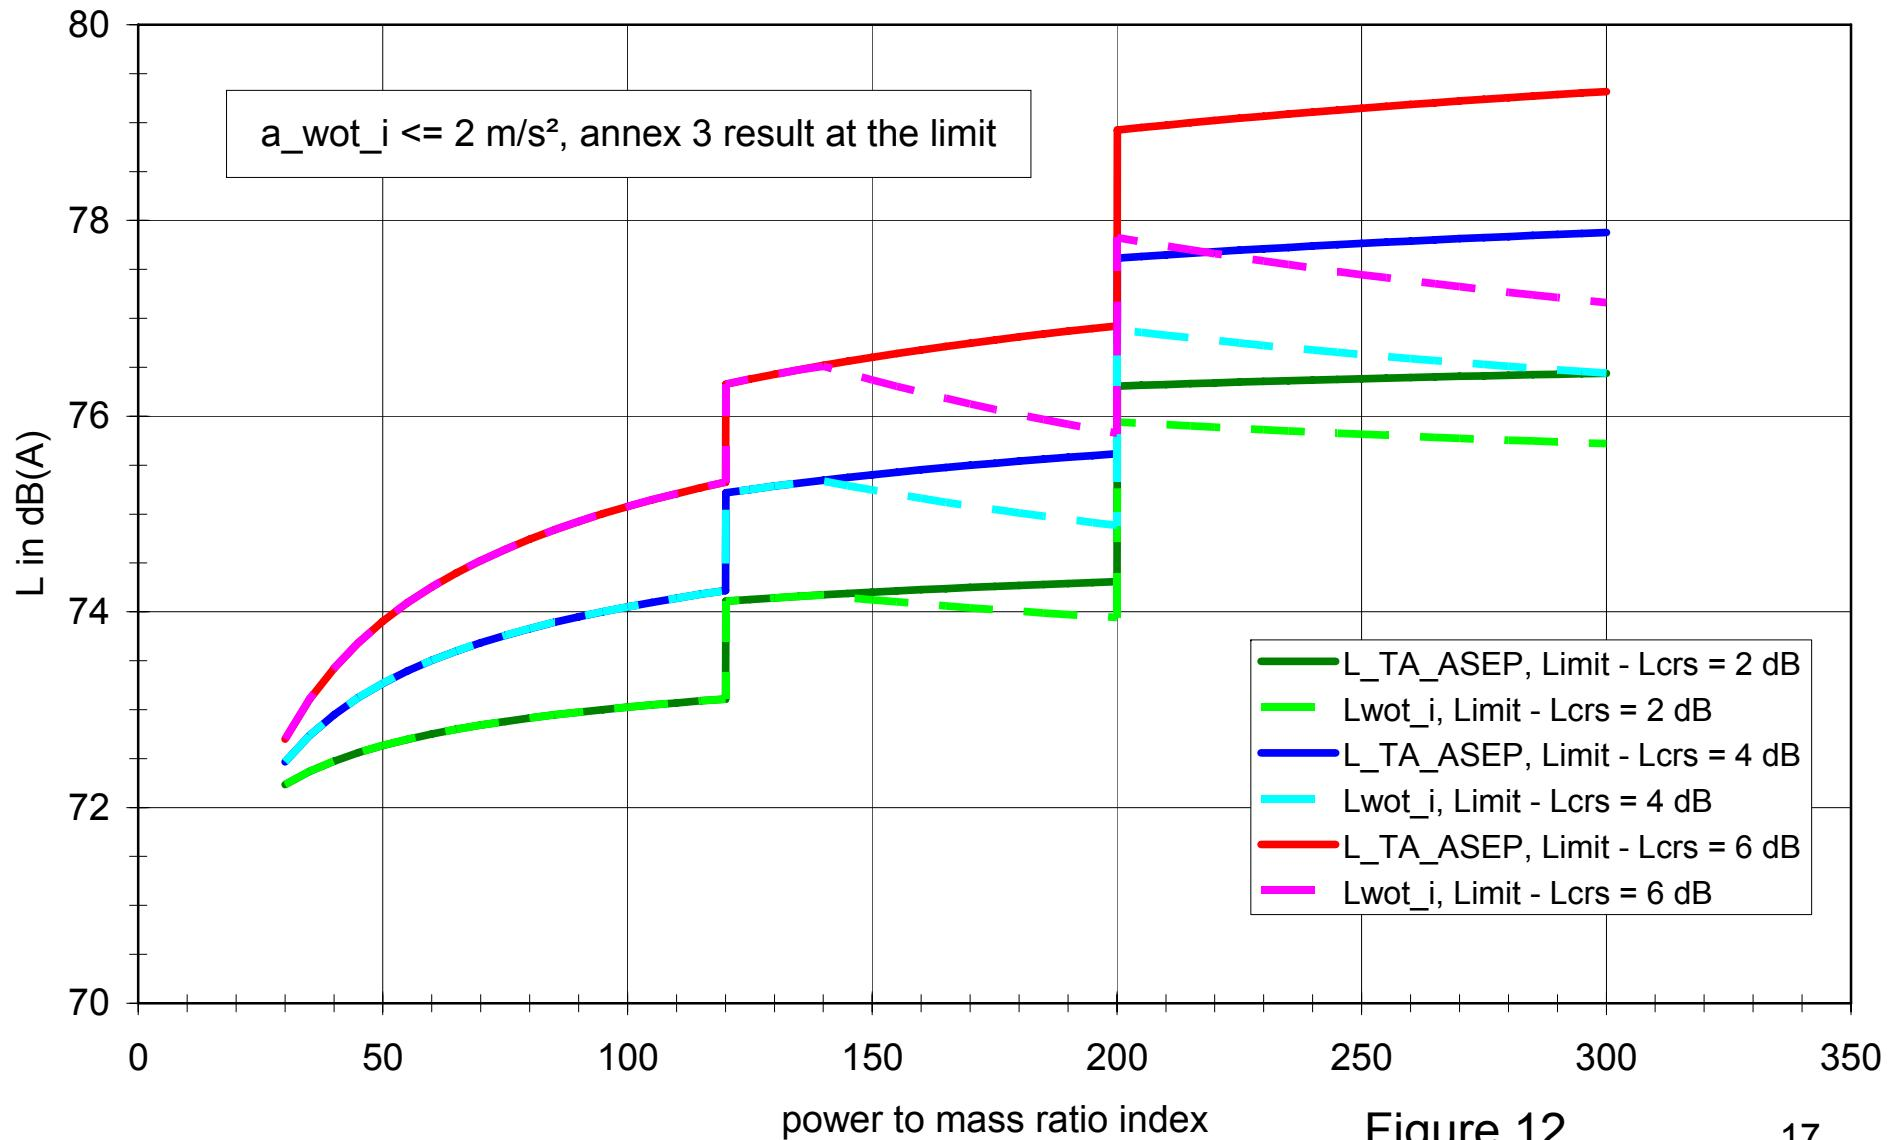

Figure 12
- The influence on Lwot_i is shown in figure 12.